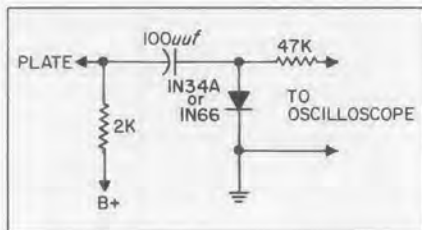

Figure 5. Plate Detector, Schematic
3. Connect the plate detector (see figure 5) between pin 6 of V206 and B plus.